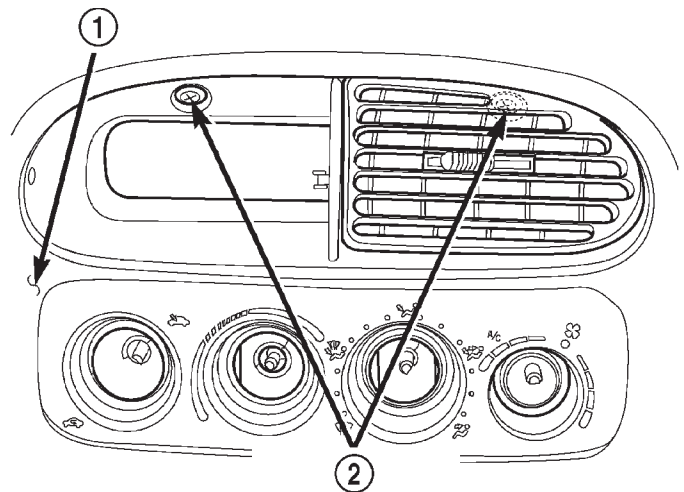

Fig. 20 Center Instrument Bezel Retaining Screws
(15) Install the (2) screws in the center instrument bezel (Fig. 20).
(16) Install the (4) HVAC control knobs.